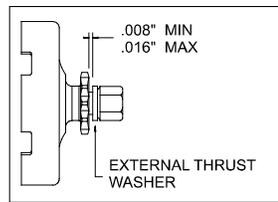

Fig. 2 End Play
3. Install Coned Safety Washer (item 7), Jam Nut (item 6) and tighten until Coned Safety Washer is flat. (450 inch pounds)
4. Install the Internal Thrust Washer (item 5). Due to manufacturing tolerances, three sizes of the Internal Thrust Washer are provided with each Clutch. It is important to install the washer that provides proper clearance to allow the drum to spin free after the Starter Nut (item 1) is tight. (See fig. 2) **Note: Chamfered side of washer faces engine.**
5. Apply lithium grease to the Roller Bearing (item 3) before installing the Drum.
7. Install the External Thrust Washer (item 2). **Note: Chamfered side of washer faces engine.**
8. Thread on the Starter Nut (item 1) and tighten to 300 in. lbs. Optional Spanner Wrench (P/N 99-5139) is designed to prevent the crankshaft from turning while tightening the Starter Nut.
**End Play** (See Fig. 2)